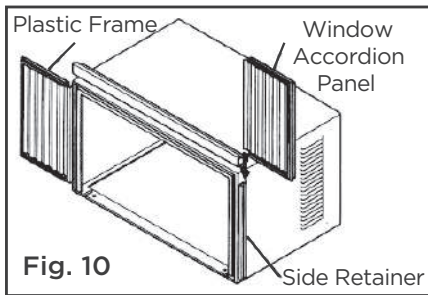
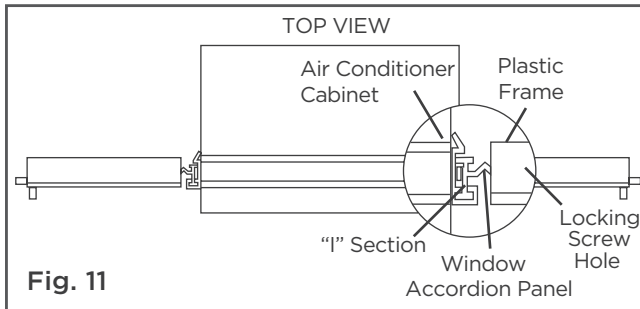

Fig. 10
Fig. 11
2. Slide 1 section of window accordion panel into side retainer on the side of the cabinet (see Fig. 10 & Fig. 11). Do both sides.